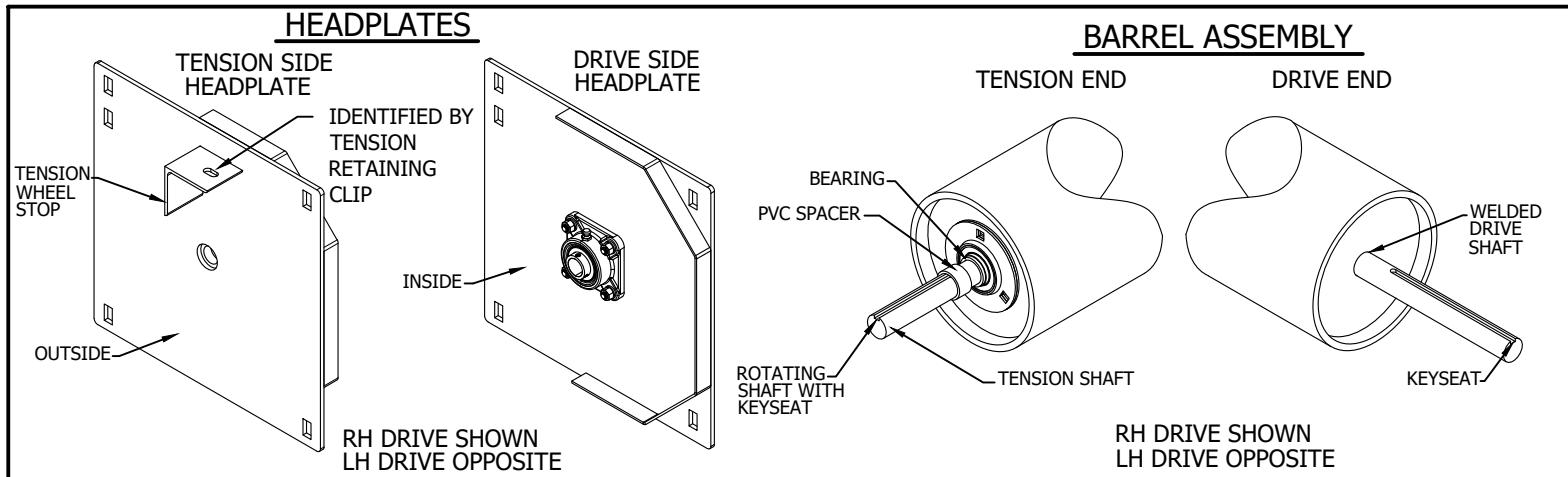

FIGURE 12
a. Proceed at ground level and identify components as shown in Figures 12 and 13.